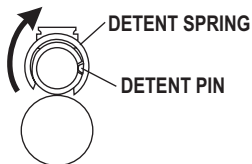

FIG. 6
- RDDs can be removed by opening bolt (See Step 5A), holding muzzle up, and releasing the detent by pushing on detent spring on the side opposite the brass detent pin with left thumb, as shown in Fig. 6, until the RDD is released. RDDs equipped with flight stabilizers must be pushed out of the barrel from the breech to the muzzle.